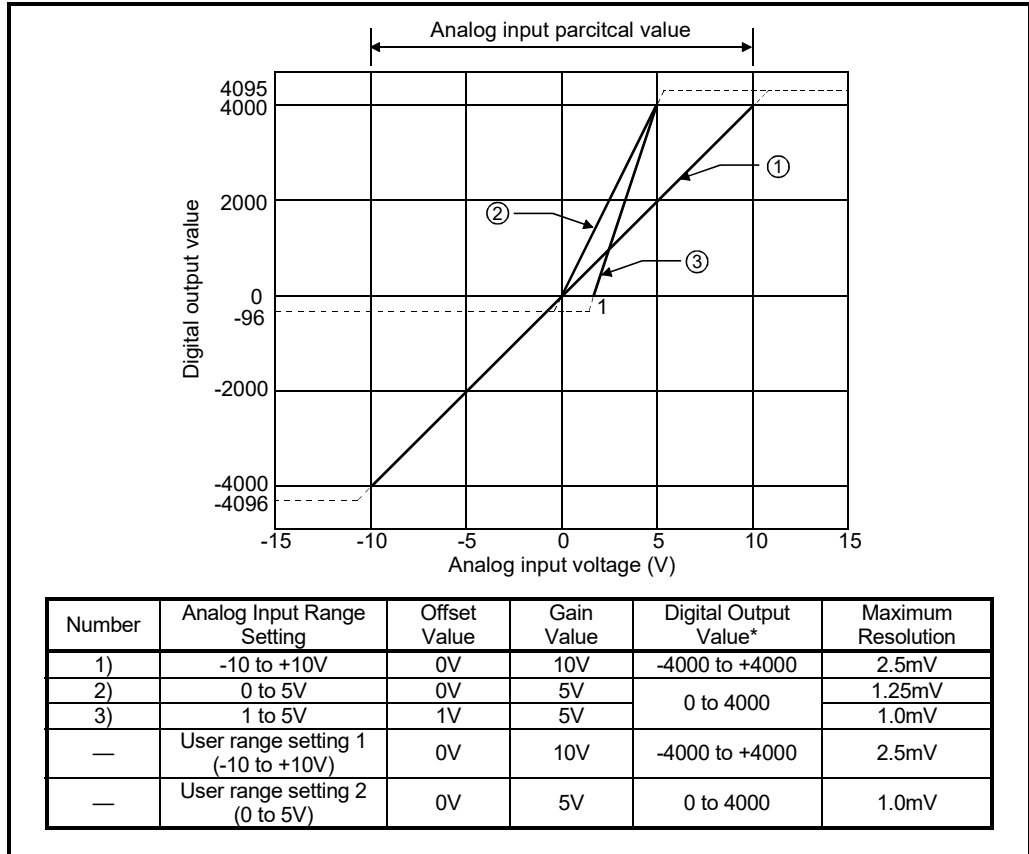

Fig. 3.1 Voltage Input Characteristic of the AJ65VBTCU-68ADVN
- (1) Do not input more than ±15V. The element may be damaged.
- (2) If the analog input provided corresponds to the digital output value\* beyond its range, the digital output value is fixed to the maximum or minimum.
- (3) Within the analog input and digital output scopes of each input range, the maximum resolution and accuracy are within the performance specification range. Outside those scopes, however, they may not fall within the performance specification range. (Avoid using the dotted line part in Fig. 3.1.)
- (4) Set the offset and gain values of the user range setting within the range satisfying the following conditions.